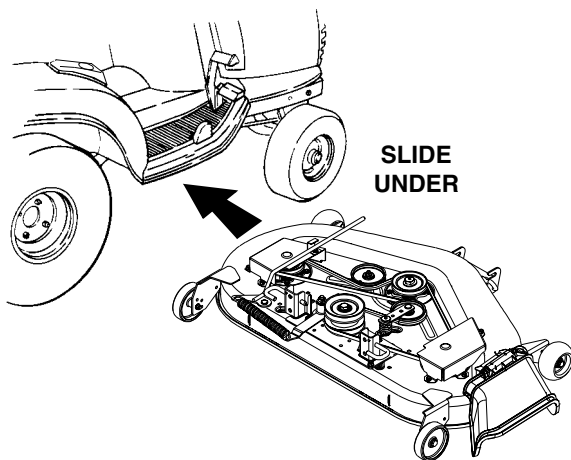

Figure 48
2. Refer to Figure 48 and position the deck on the right side of the tractor with the front of the deck facing toward the front of the tractor. Raise the tractor implement lift handle to its highest setting and slide the deck under the tractor.